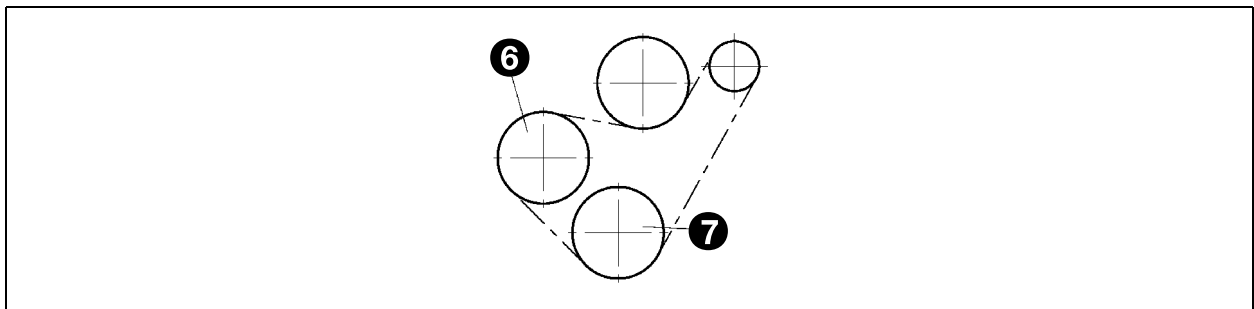

*Fig. 19 - Fitting the cups*
3. Mount the cups and the rubbers as shown in fig. 19. make sure that the cups do not touch the rollers.